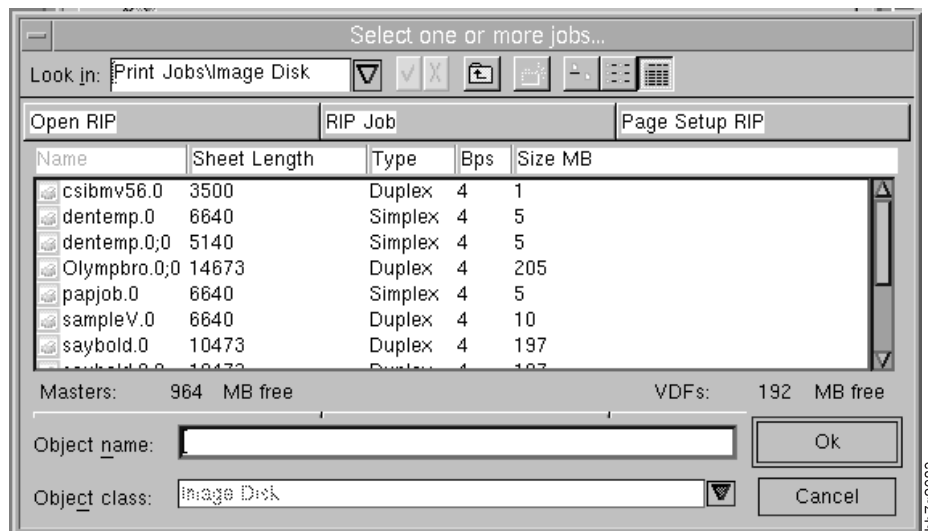

Figure 126. Select a job... Window
- 3 Click on the pushbutton next to the **Front** text box to display the **Select a job** window, as shown in Figure 126.